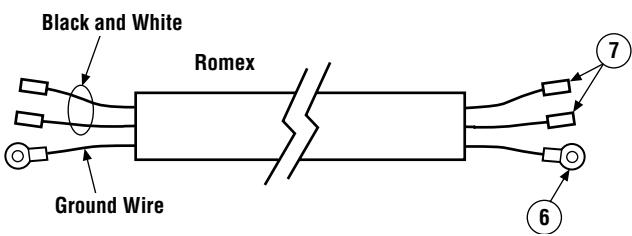

Figure 31 - Romex
- Refer to Figure 31 on Page 24 and install the electrical hardware on the ends of the Romex wiring. Male terminals on the Black and White wires, and ring terminals on the ground wire.